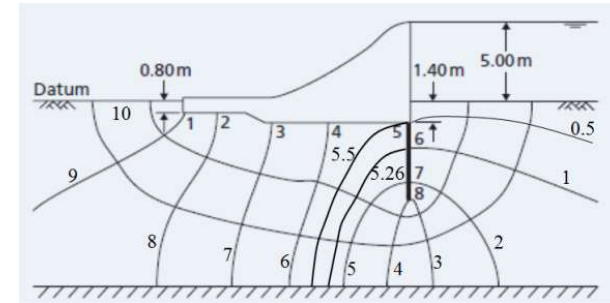

Figure 1
4. (a) A layer of silty soil of thickness 6 m lies below the ground level (GL) and below the silt layer lies a clay stratum. The ground water table (GWT) is at a depth of 5 m below the ground surface. The following data are available for both the silt and clay layers of soil; Silt layer: $D_{10} = 0.018$ mm, $e = 0.7$ and $G = 2.65$ and Clay layer: $e = 0.8$ and $G = 2.75$. Considering the effect of porosity, determine the effective stresses at (i) GL, (ii) GWT level, (iii) 3 m below GL and (iv) 9 m below GL. [Assume $C = 0.4$ cm²]
- (c) Determine the quantity of seepage under the dam (Figure 1) and calculate the uplift pressures at points 1, 3 and 5 on the base of the dam. The coefficient of permeability of foundation soil is 2.5×10^{-5} m/sec. The points 6, 7 and 8 are lying at 3.07m, 5.20m and 6.0m below datum.